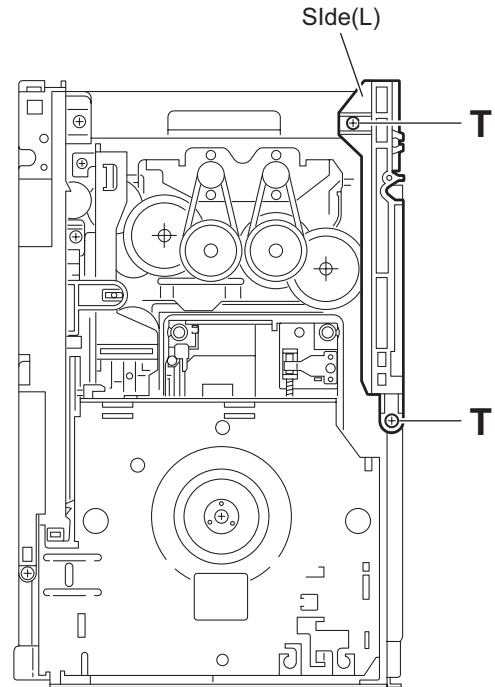

Fig.19
### 3.2.11 Removing the side (L) assembly and tray switch board (See Figs.19 to 21)
- (1) From the topside of the DVD changer mechanism assembly, remove the two screws **T** attaching the side (L). (See Fig.19.)